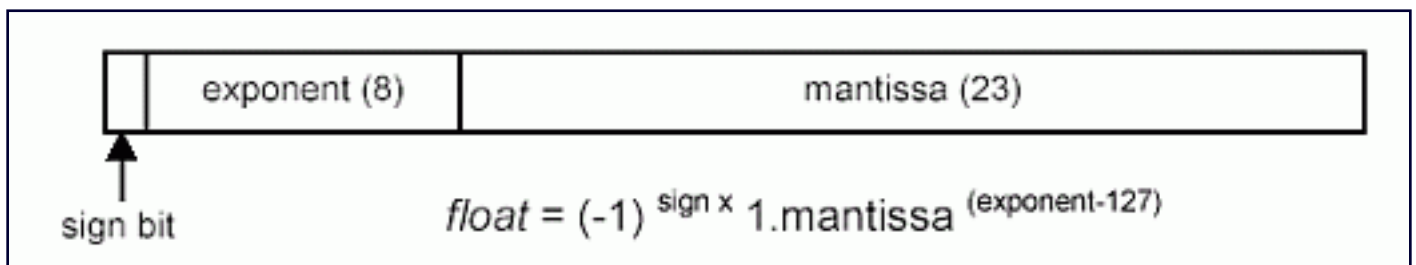
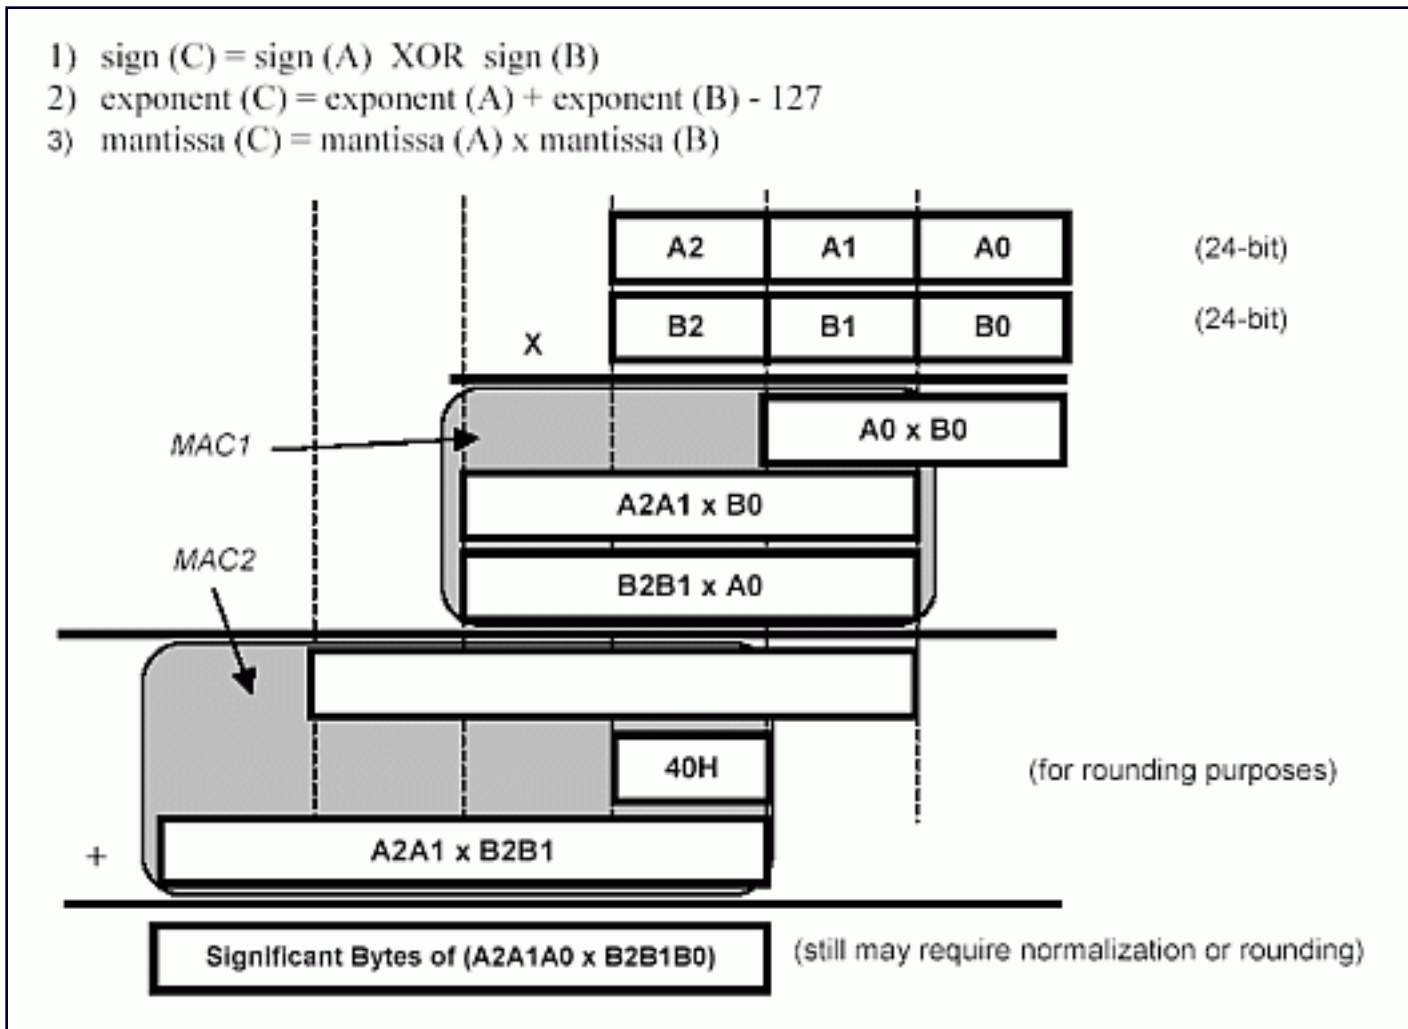

Figure 8. IEEE754 single precision floating point format
Figure 9. Floating point multiply ($A \times B = C$).
To demonstrate the capability of the DS80C390/DS80C400 math-accelerator hardware, let us consider the task of multiplying two floating-point numbers. Figure 8 below shows the IEEE754 single-precision floating point number format and Table 3 contains some example numbers. Multiplication of binary floating point numbers involves addition of exponents and multiplication of signed 24-bit numbers. Figure 9 shows the basic steps that must be performed to accomplish the task. By far, the most time consuming of the three steps, for 8051 hardware, is the 24-bit x 24-bit multiplication. While the DS80C390/DS80C400 arithmetic accelerator does not support direct multiplication of two 24-bit numbers, utilizing its 16-bit x 16-bit multiply and accumulate function provides a distinct performance advantage over traditional 8051 methods. An outline for multiplication of the (2) normalized 24-bit numbers using the accelerator is shown in Figure 9, Step 3. The partial product multiply-accumulate (MAC) operations have been highlighted.